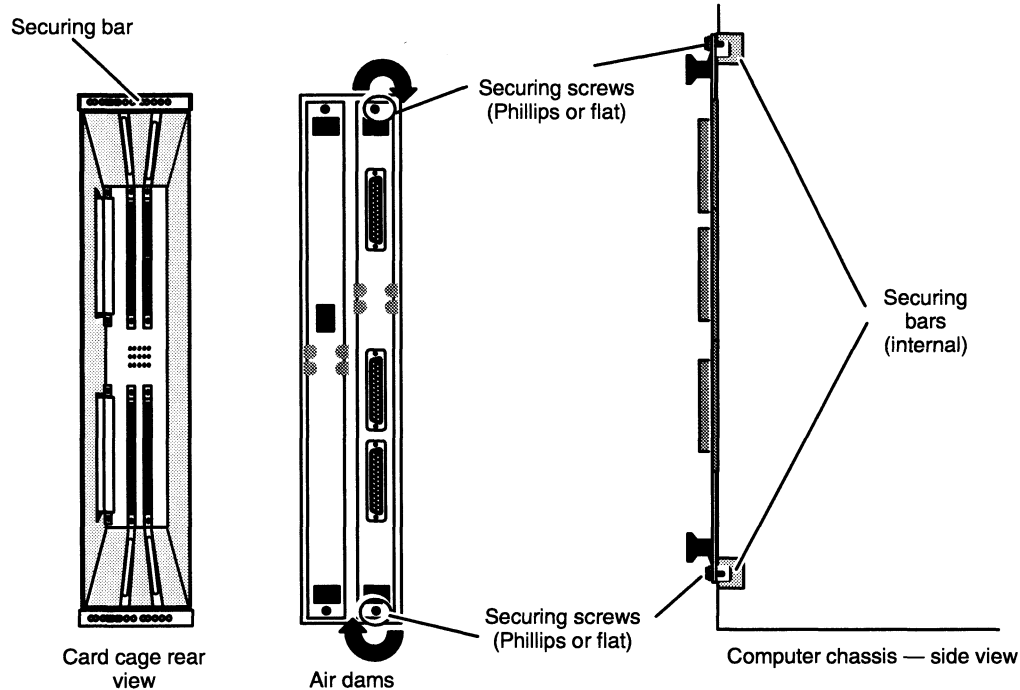

Figure 3-12 Securing a VME Board in the Card Cage
- With the board one-half of the distance into the slot, verify that the board rests in both the top and bottom guide rails. With the top and bottom board ejectors positioned as shown in Figure 3-11, carefully slide the board straight into the slot until you feel the connectors seat with the backplane connectors. Do not push the board from side to side or otherwise risk bending or breaking the connector pins. The air dam on your VME board should be flush against the securing bar when the board is properly seated. Figure 3-12 identifies the securing bar in the card cage.
7. Once the board is seated in the card cage slot, secure the board in place by inserting and tightening the securing screws above and below the handles into the securing bar, as shown in Figure 3-12.